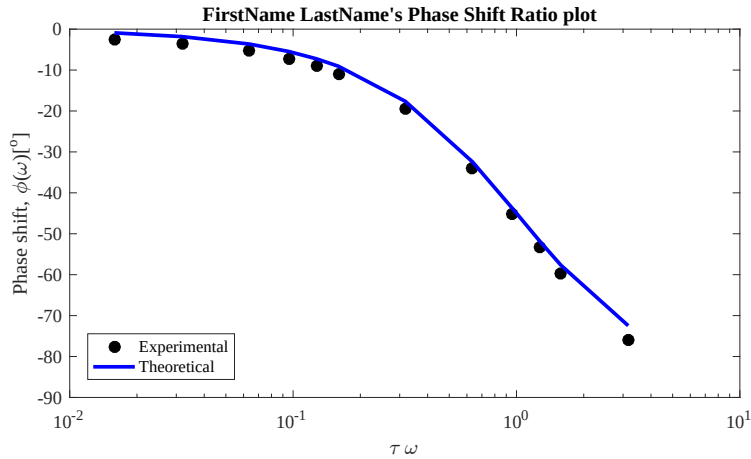

Figure 4: Sample phase lag plot
- Phase Shift Ratio Plot. Submit a single figure with both theoretical and experimental phase lag plotted vs. frequency using a semi-log scale. Make sure to properly annotate your plot. Use Fig. 4 as a reference.